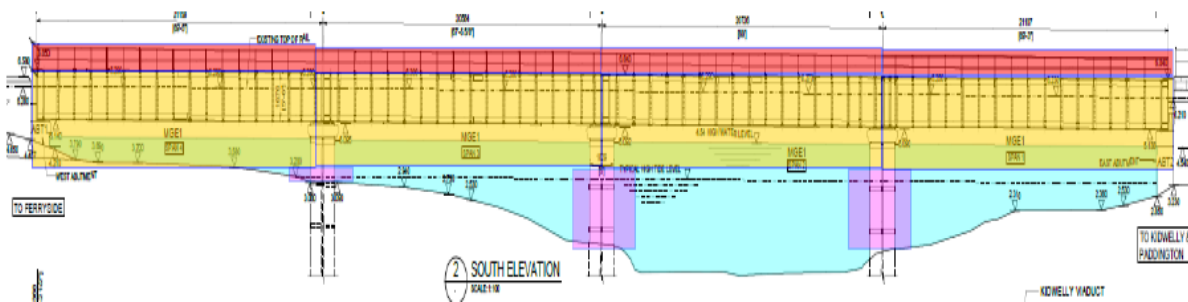

Figure 4 Areas of vegetation clearance
- Figure 4 Areas of vegetation clearance